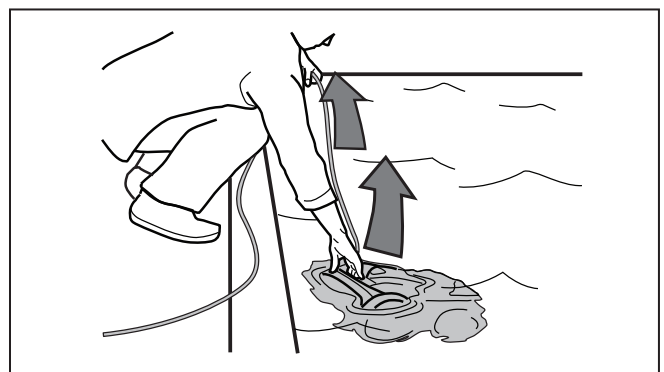

Figure 14. Lift Cleaner From Pool with Handle
5. When the cleaner is within arm's reach, use the handle to lift it from the water (Figure 14).